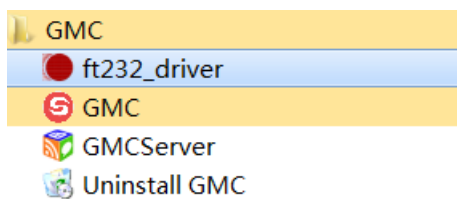

Fig.2-9 Menu
- Method 2: Choose from the start menu 'GMC---GMC', as shown in Fig.2-9.